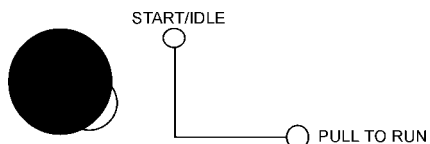

Figure 68. Engine Throttle Lever (IDLE)
3. If the engine is equipped with the engine throttle lever, turn and push to 'IDLE' position (Figure 68).